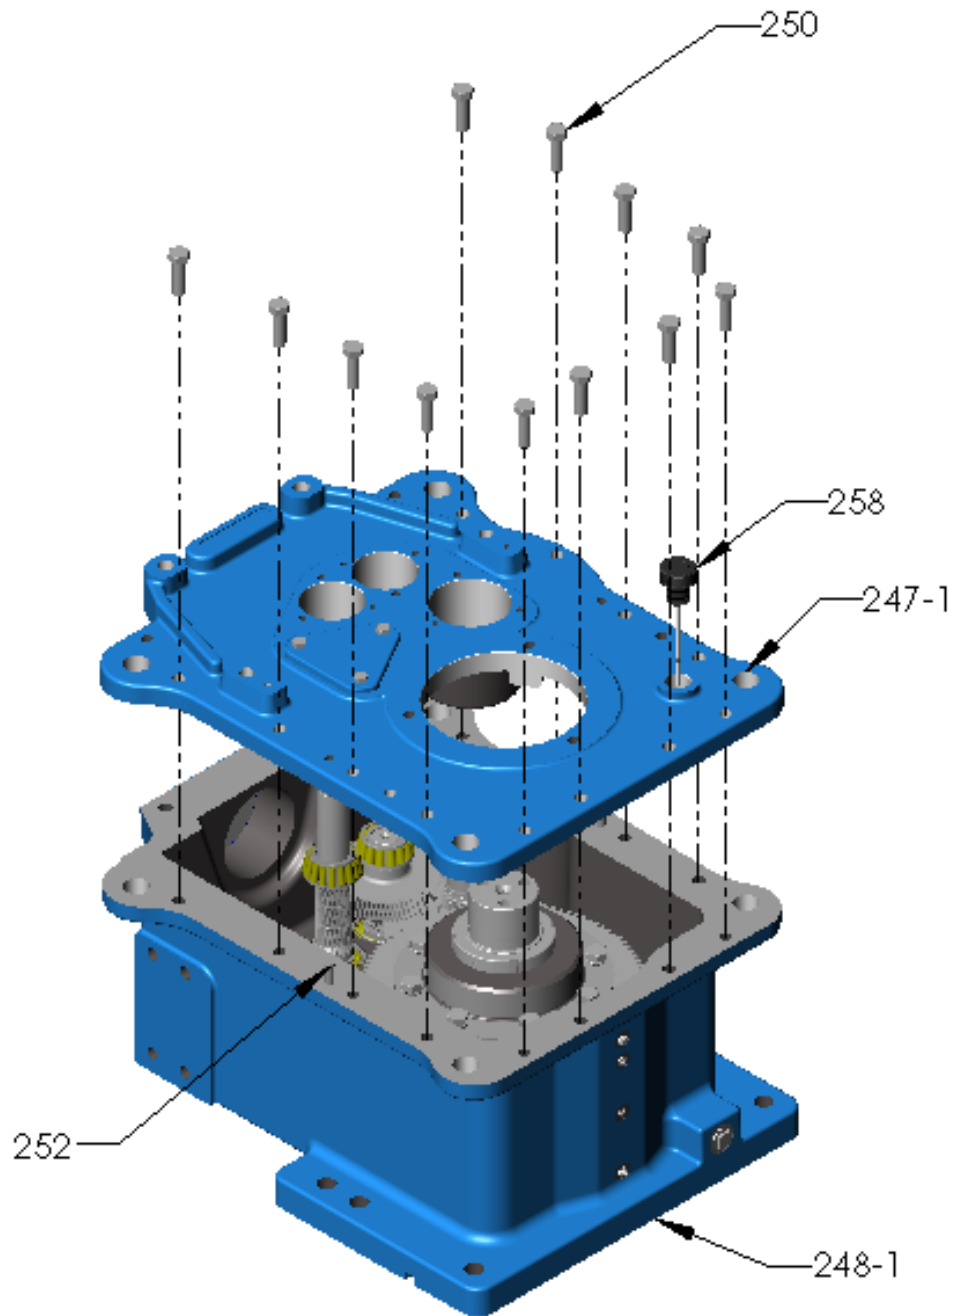

Figure 21 – Case Lid
- P. Install case lid **[247-1]** (refer Figure 21).
- (8) Apply Three Bond Sealant 1215AA or equivalent to case bottom flange.
- (9) Put case lid **[247-1]** on case bottom.
- (10) Install dowel pins **[252]**.
- (11) Install bolts **[250]** and torque-tighten to value given in Figure 21.
- Q. Install dipstick **[258]** (refer Figure 21):